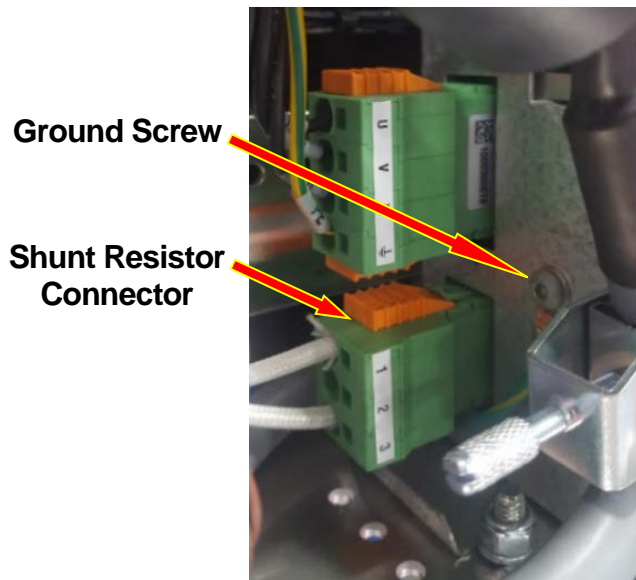

Figure 4
- C) Disconnect the ground screw from the old drive. See Figure 4.